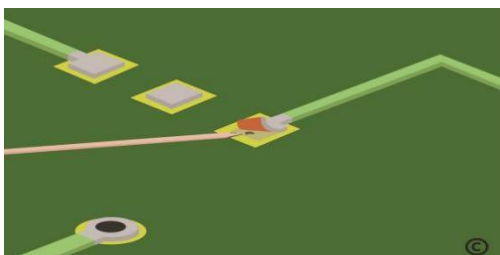

Fig. 3.3
4. Carefully apply a small amount of epoxy (**Fig.3.3**) under the entire length of the lifted circuit. The tip of an orange wood stick may be used to apply the epoxy.